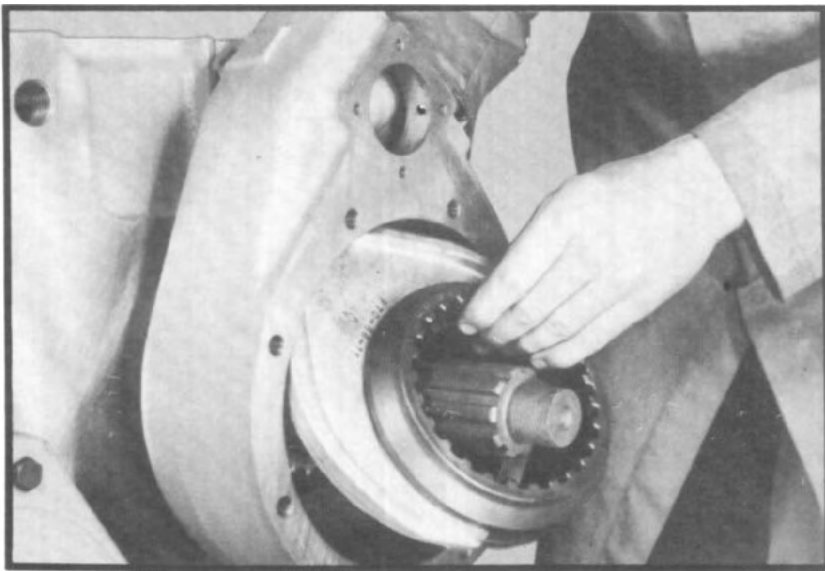

Fig. 161
2. Slide clutch collar onto shift fork and install the two parts together into the lockout housing. The tapped holes in the shift fork must face toward indicator switch position. (See fig. 161.)